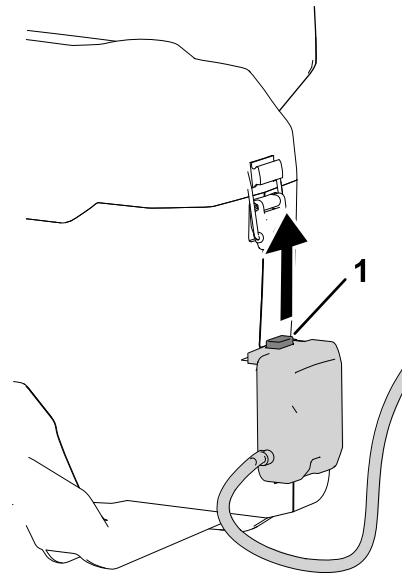

Figure 7
- Press the latch button on the backpack connector and pull it up to separate the tether from the backpack (Figure 7).